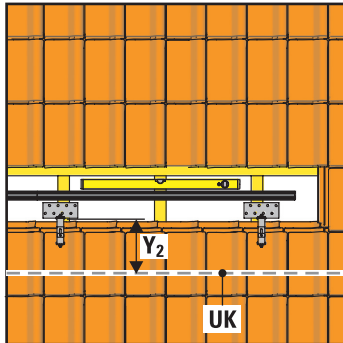
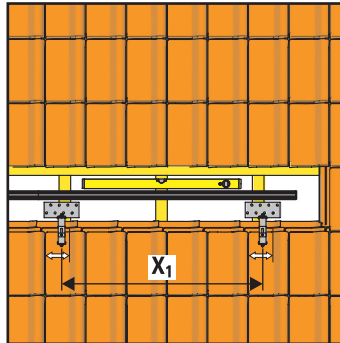

Fig. 3-5 Aligning the on-roof ties from the planned lower edge of the solar panels at distance Y_2
Fig. 3-6 Determining the mounting positions of the roof brackets
4. Determine the installation points for the on-roof mounting ties. The on-roof mounting ties should be distributed evenly under the mounting profile rail (Fig 3-5 and Fig 3-6).